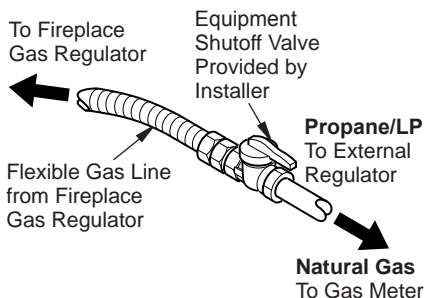

Figure 17 - Attaching Flexible Gas Lines Together
NOTICE: Most building codes do not permit concealed gas connections. A flexible gas line is provided to allow accessibility from the fireplace (see Figure 17). The flexible gas supply line connection to the equipment shutoff valve should be accessible.
4. Attach flexible gas line to gas supply (see Figure 17). Check tightness of flexible gas line attached to gas regulator of fireplace (see Figure 17).